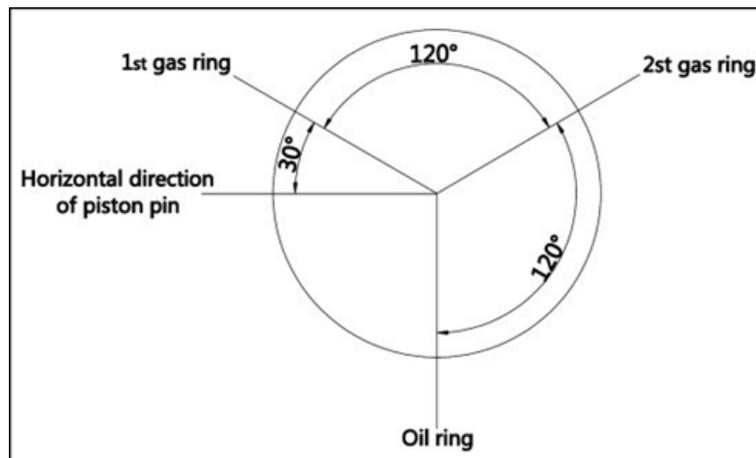

Figure 133.
9. Stagger the piston ring end gaps at  $120^\circ$  intervals (Figure 133). Do not position the top piston ring end gap in line with the piston pin.